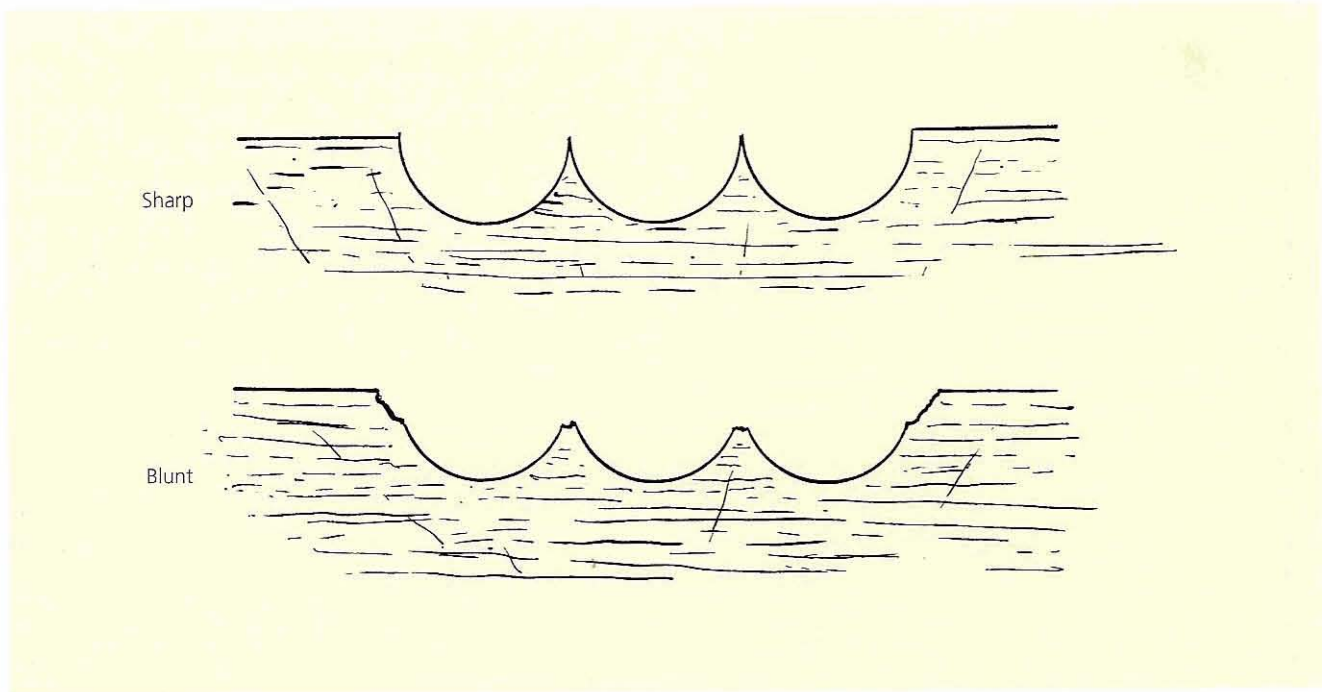

Fig 9.1 One test for sharpness is to lay a series of grooves next to each other
- Grooves and cuts can be laid down next to each other without tearing up or crumbling the ridges of wood in between (Fig 9.1).